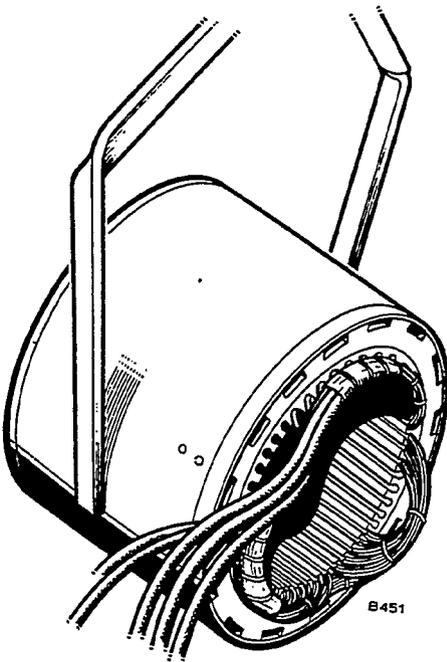

FIGURE 60. REVOLVING STATOR FOR REPAIRS
- While stator is still on lift tongs or hooks, revolve stator to horizontal position and set it down on its side, Figure 60.